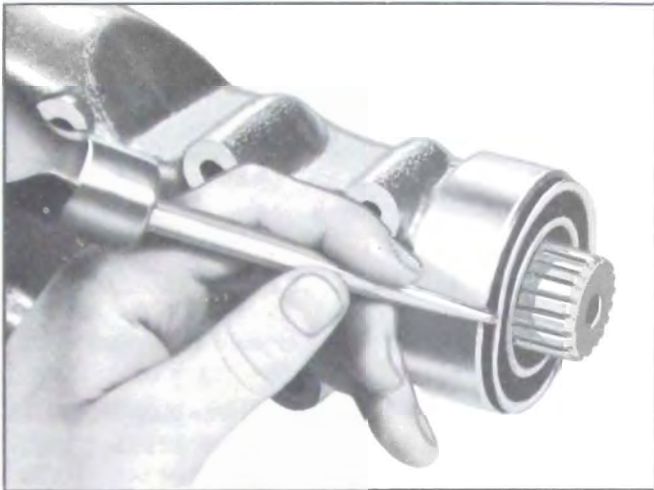

Figure 4-42—Removing Extension Oil Seal
4. Use punch or other suitable tool and loosen seal from rear extension of transmission and remove. See Figure 4-42.